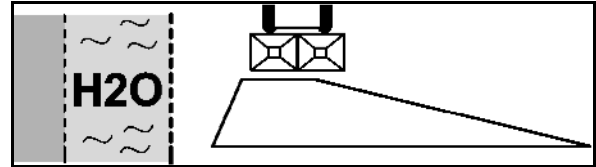

Fig. 92
2. Ditch spreading in accordance with fertiliser ordinance (Fig. 92):